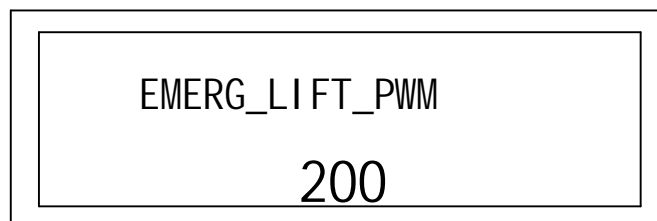

Fig. 17: EMERG_LIFT_PWM setup
12). EMERG_LIFT_PWM: the PWM of emergent lifting (speed). Fig.17